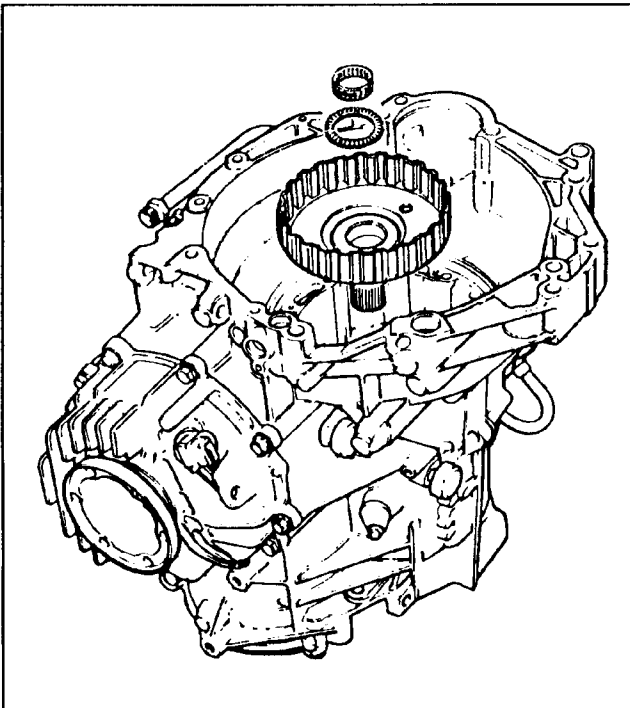

Figure 64
16. Remove the round needle cage and the flat torrrington bearing, then remove the large drive shaft for the small sun gear. (See Figure 64)